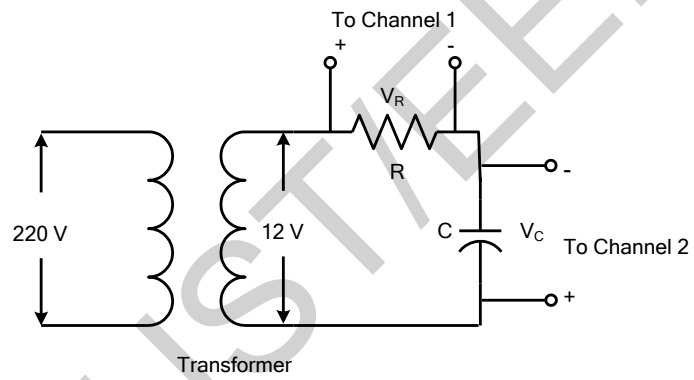

Figure 4: Experimental setup for R-C circuit
8. Make connections for the R-C circuit shown in Fig. 4 and repeat steps 2 to 7 for the R-C circuit. Record the readings in Table 2.